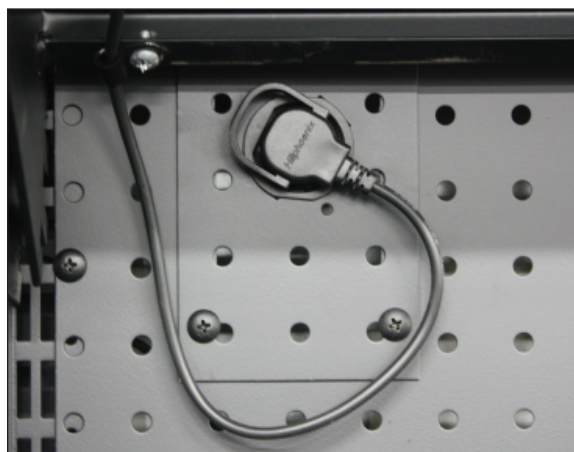

Fig. 8 LED light power cord
1. Unplug the luminaire (Fig. 8).